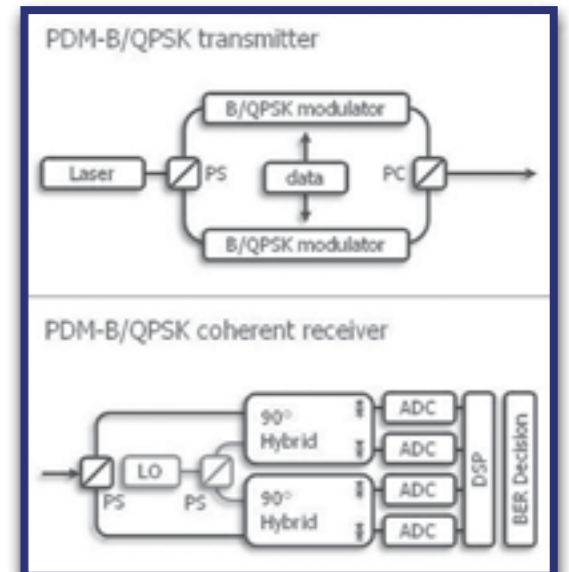

Figure 4: PDM-B/QPSK Transmitter and receiver
The scheme in principle of a PDM-BPSK or PDM-QPSK transmitter-receiver is shown in Figure 4. The transmitter laser signal is split into two orthogonal polarizations and each polarization is B(Q)PSK modulated with a signal data rate before being recombined. Such a PDM technique allows to build a 40Gbit/s PDM-BPSK signal using a 20Gbaud rate per polarization (baud = symbols/sec) or a 100Gbit/s PDM-QPSK signal using a 25Gbaud rate per polarization. Further optimization of the signal consisting of the addition of Return to Zero (RZ) carving may be done on the transmit side to improve the robustness of the signal to non-linear effects.